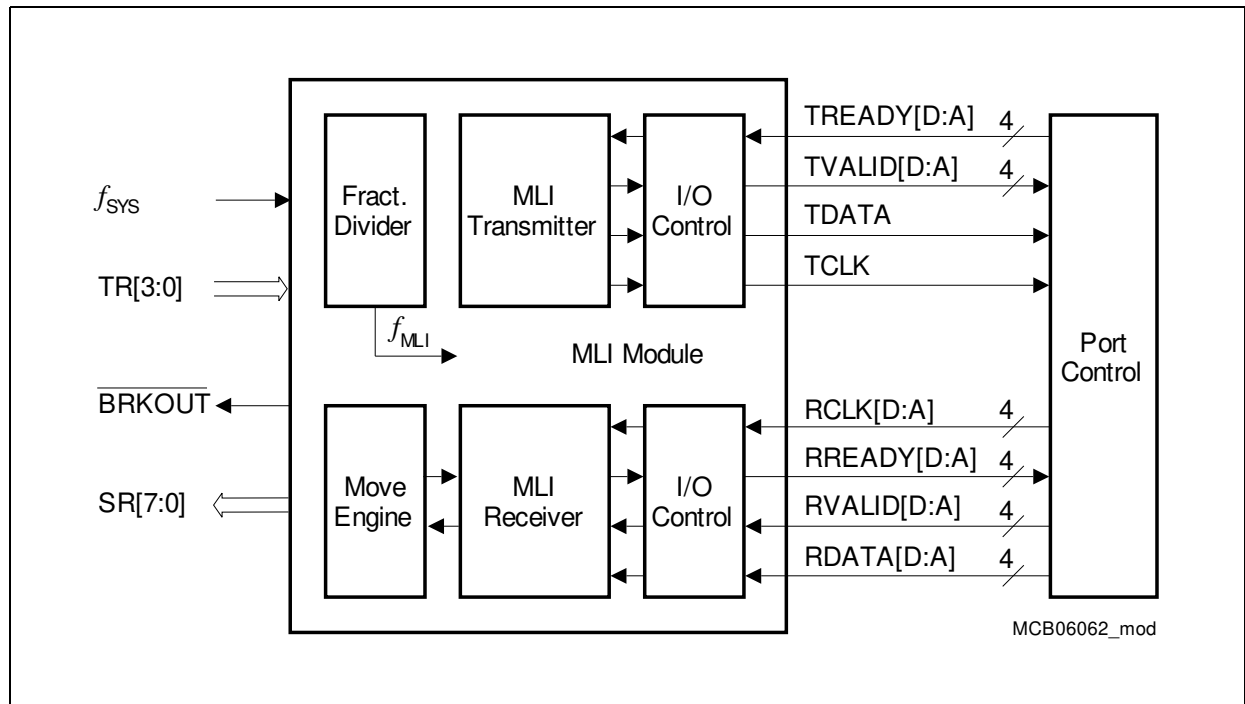

**Figure 9 Typical Micro Link Interface Connection**
**Figure 9** shows how two microcontrollers are typically connected together via their MLI interfaces.